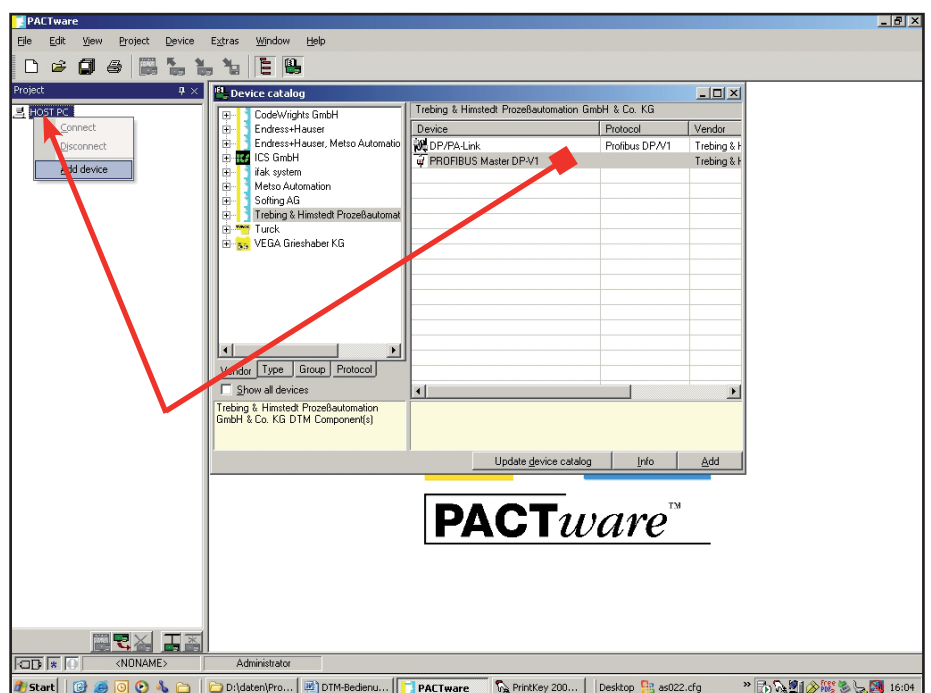

Fig. 2 Adding the communication DTM to the current project
- ❑ **Add the communication DTM to the current project (Fig. 2).**
Position the DTMs required for the network structure in this empty project. In this example, the CP5511 communication processor from Siemens is used to access PROFIBUS. The communication DTM required for this is supplied by Trebing+Himstedt. Select the communication DTM with the mouse and drag it onto the higher-level element in the project window (in this case the host PC) using drag and drop (see Fig. 2).